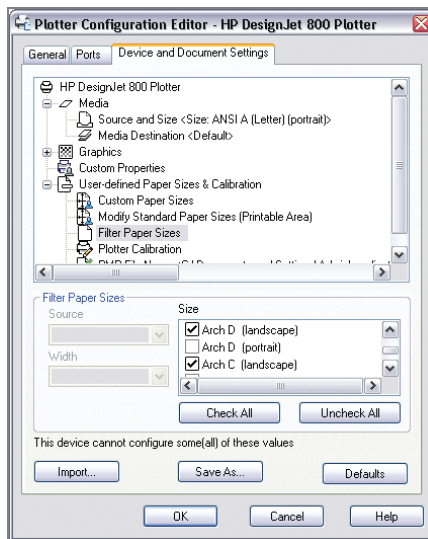

FIGURE 14.5 Filtering out all unused paper sizes
- Select the Device And Document Settings tab, and then select the Filter Paper Sizes node in the Plotter Configuration Editor dialog box that appears. Click the Uncheck All button. You should filter the list of paper sizes to display only the sizes you use. Scroll down the list, and select the following paper sizes: Arch C (landscape) and Arch D (landscape). Figure 14.5 shows the result.